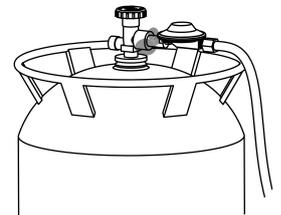

Figure 7
2. Apply several drops of the solution to the connection between the **gas tank valve and the regulator** (see Figure 7).